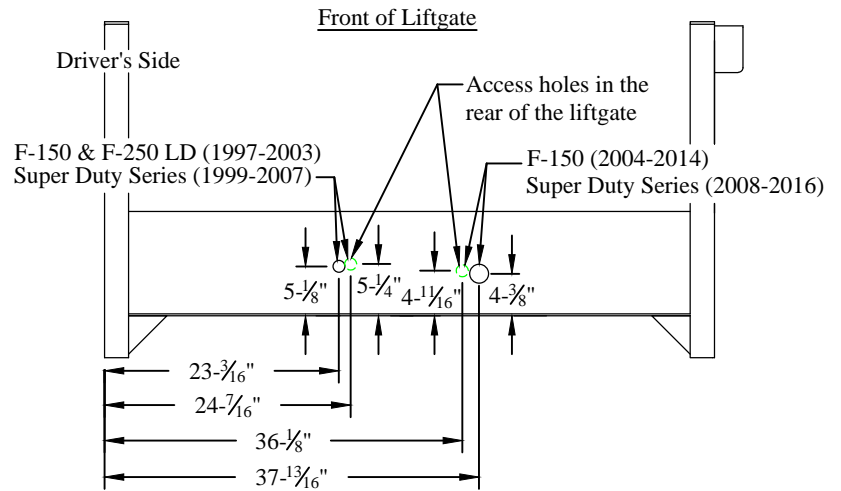

Figure 13: Spare tire access.
2. **Remove** the black plastic plugs for your application (Figure 13).